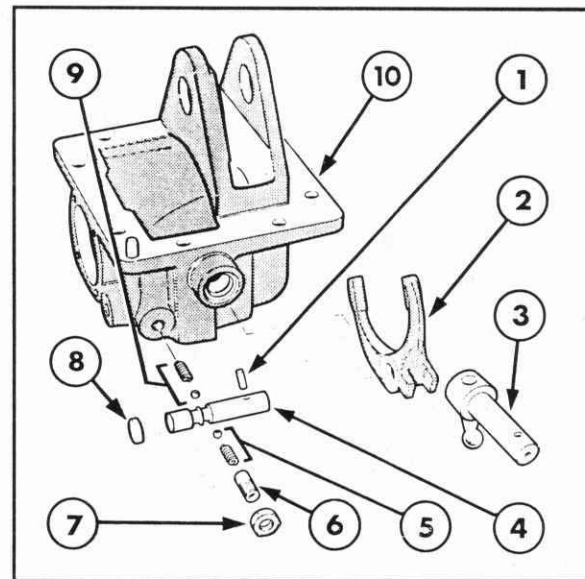

Figure 7-145
11. Remove detent shaft from casing the knock the pin from the shaft. Retrieve the remaining detent ball and spring. Refer to Figure 7-145.